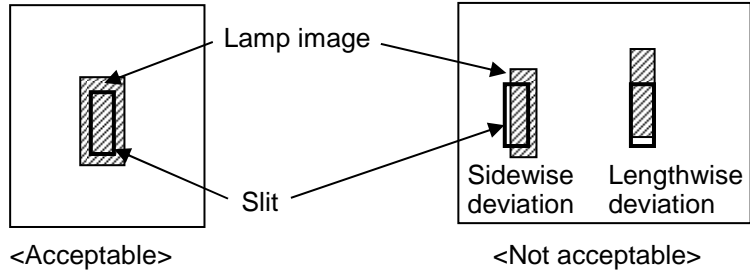

Fig. 5-7
- ② Press the wavelength shift key () to shift to 400 nm. Then, the light source mirror turns to face WI lamp causing the incident light from the WI lamp to ray the slit. Open the light source cover, and check that the image of the lamp forms as shown in Fig. 5-7.